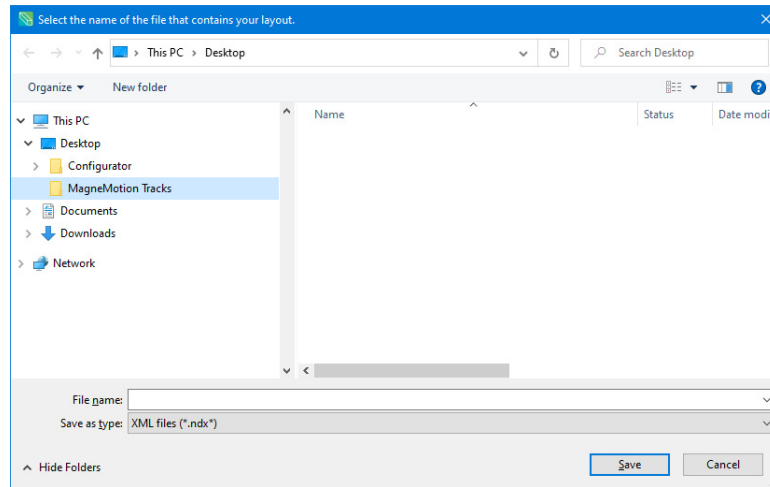

Figure 2-12: Load Track Layout File Dialog
*The **Load Track Layout File** dialog box, see Figure 2-12, is displayed.*